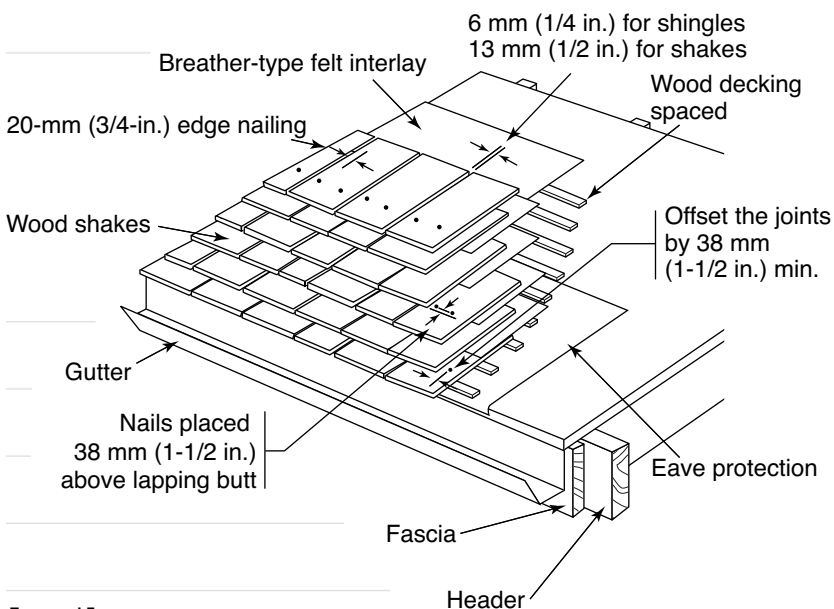

FIGURE 15
- ◆ Space shingles 6 mm (1/4 in.) apart, and offset them at the joints in adjacent courses by not less than 40 mm (1-1/2 in.) so that joints in alternate courses are staggered. Shakes shall be spaced 6 mm (1/4 in.) to 9 mm (3/8 in.) apart and offset at the joints in adjacent courses by not less than 40 mm (1-1/2 in.), so that joints in alternate courses are staggered (see Figure 15).